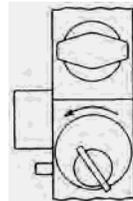

Figure 3-4
- Insert cylinder key into cylinder on combination lock side of the door. Turn key in a counter-clockwise direction to the stop position (**See Figure 3-4**). Return the key to the pull position and remove. The thumb turn should not turn while the lock is in this mode.